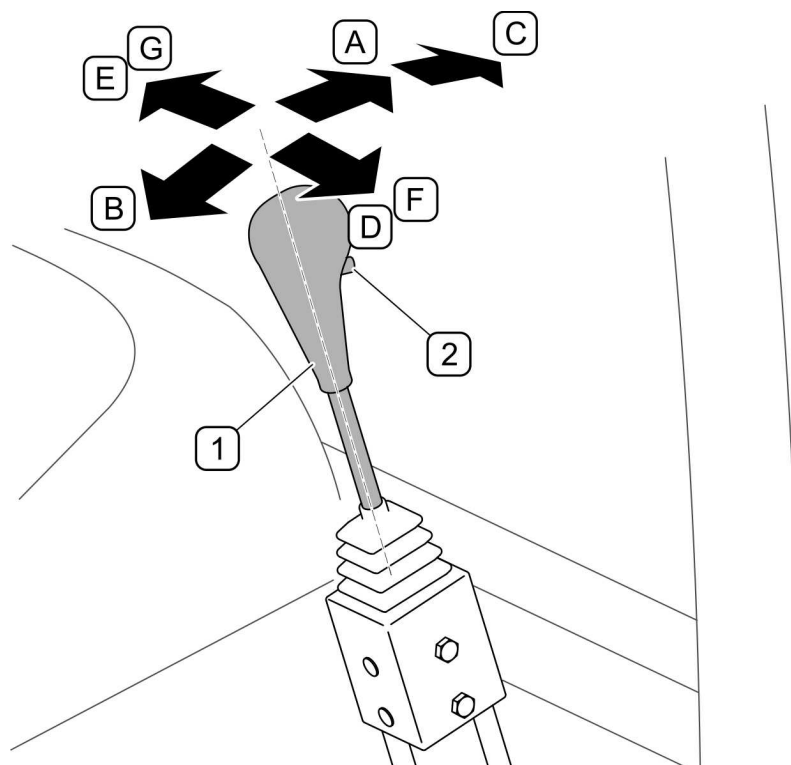

FIGURE 4.10. Loader control lever
(1) - control lever; (2) - a button that activates the 3rd tool control section; (A) - boom lowering; (B) - boom lifting; (C) - "floating" position of the boom; (D) - tilting the tool forward; (E) - tilting the tool back; (F) - opening of the tool; (G) - closing of the tool
The (F) and (G) (FIGURE 4.10) positions are used when the implement is equipped with a hydraulic system (e.g. manure grab, bale grab, silage cutter, etc.) connected at the front to the boom quick couplers. To open the working tool, set the lever to the extreme right position and additionally press the button (2) in the lever handle. To close the tool, press the button (2) and set the control lever to the left position.